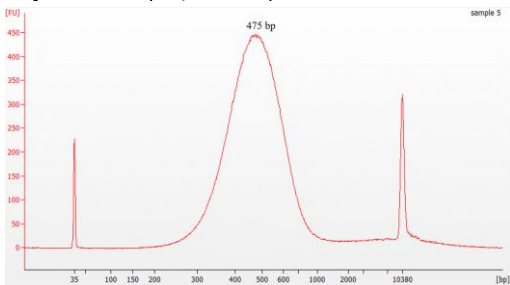

Figure 2 Agilent 2100 Bioanalyzer Results of beads purification Product with two-step bead selection process
**Note:** The DNA sample loss during bead selection can be as high as 60%–95%. For important samples, you may retrieve the beads from the first Bead Selection process, then wash twice with 80% Ethanol. Air dry the beads pellet, elute DNA with En-TE Buffer, and store as a backup. For the first size selection of the sample, it is recommended to take 2  $\mu\text{L}$  of step 3.3.1.15 eluted product for Agilent 2100 High Sensitivity test (Figure 2), to make sure the peak size of the selected fragments about 475 bp (May have a  $\pm 50$  bp deviation).